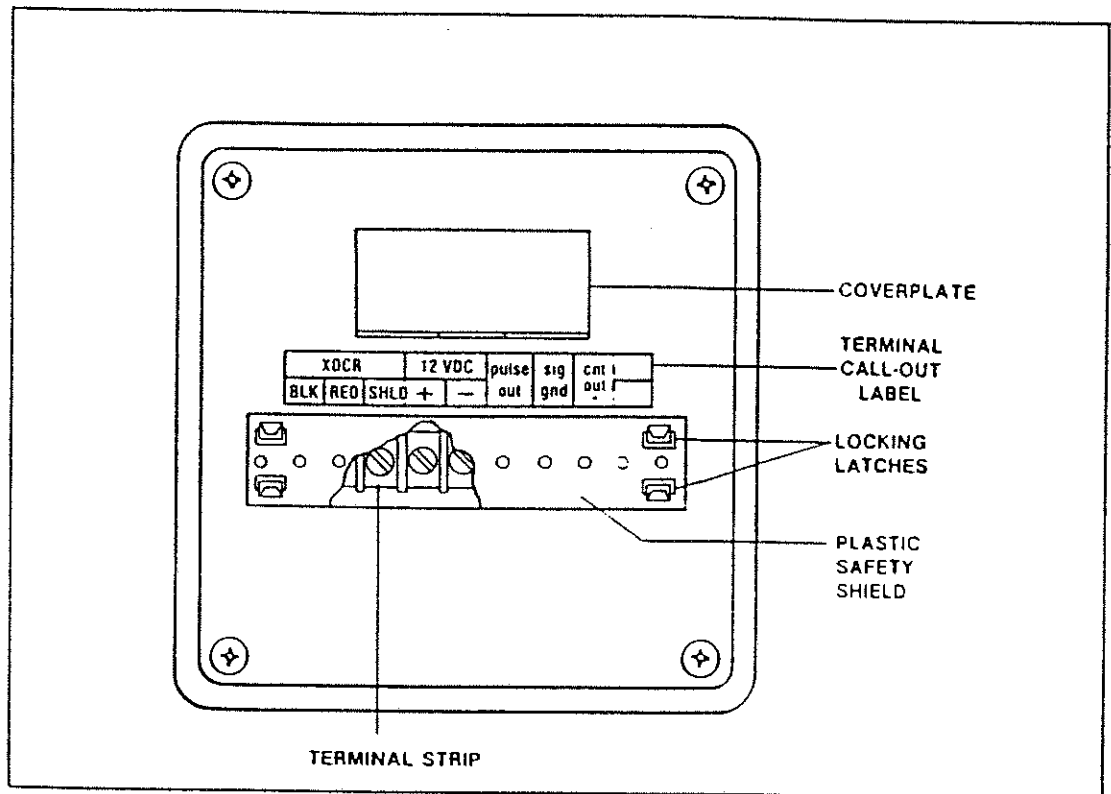
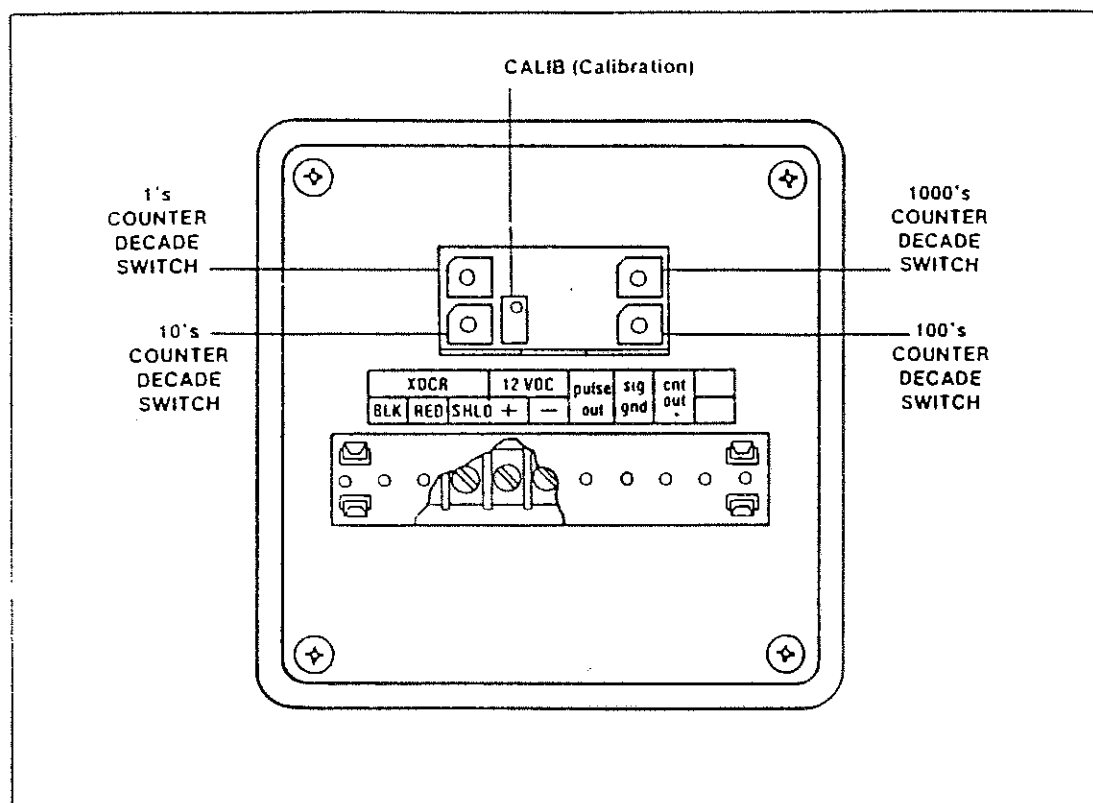

Figure 3. Rear view of MK 575 with coverplate in place over calibration and counter controls.
Figure 6. Rear view of MK 575/575R with calibration and counter controls exposed.
6. Remove the plastic safety shield from the rear terminal strip by pinching inward each pair of plastic locking latches. Then connect the Flosensor output cable to the appropriate XDCR (transducer) terminals on the rear of the indicator case (see Figures 3 and 4)
The input module of the MK 575 conditions the Flosensor signal. The processor circuitry then forms the conditioned input signal into square-wave-shaped, precision width, noise-free positive pulses. The pulses are also separately amplified and are available to drive external instrumentation, including other Signet indicators and controllers, at the PULSE OUT terminal on the MK 575's rear panel (see Figure 3). Internally, these pulses are input to a frequency-to-current converter. This circuitry employs a constant-current generator where the pulse waveforms are converted to a current in a closed-loop system by charging a capacitor, with this charge being directly proportional to the frequency. This current drives the Flometer's meter.
The pulse signal is connected to a presettable divide-by N counter circuit. The counter divides the pulse frequency by a preset number. This number, N, is the number dialed into the rear-panel rotary decade switches, plus one (see Figure 6). For example, if 378 is dialed into the switches, the counter will divide by 379. The divider has a division range of 2 to 10000, corresponding to switch settings from 0001 to 9999. The counter also provides an output to drive an external counter, pump, or other equipment at the CNT OUT* terminal on the rear of the MK 575 (see Figure 3).
Recalibrating the counter circuitry can be accomplished in the field simply by resetting the decade rotary switches on the rear of the MK 575 case (see Figure 6) using the appropriate K factor (pulses/gallon or pulses/liter) from Table 2 in the following equation: